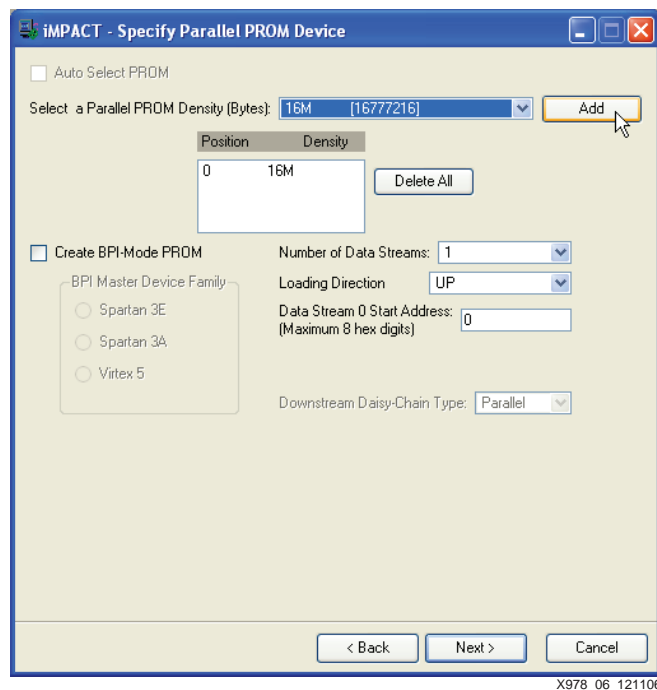

Figure 6: Specify Parallel PROM Device Dialog Box
- In the Specify Parallel PROM Device dialog box, shown in Figure 6, select a parallel PROM density of **16M** and click **Add**. Ensure the **Number of Data Streams** is set to **1**, the **Loading Direction** is set to **UP**, and the **Data Stream 0 Start Address** is set to **0**. Click **Next**.